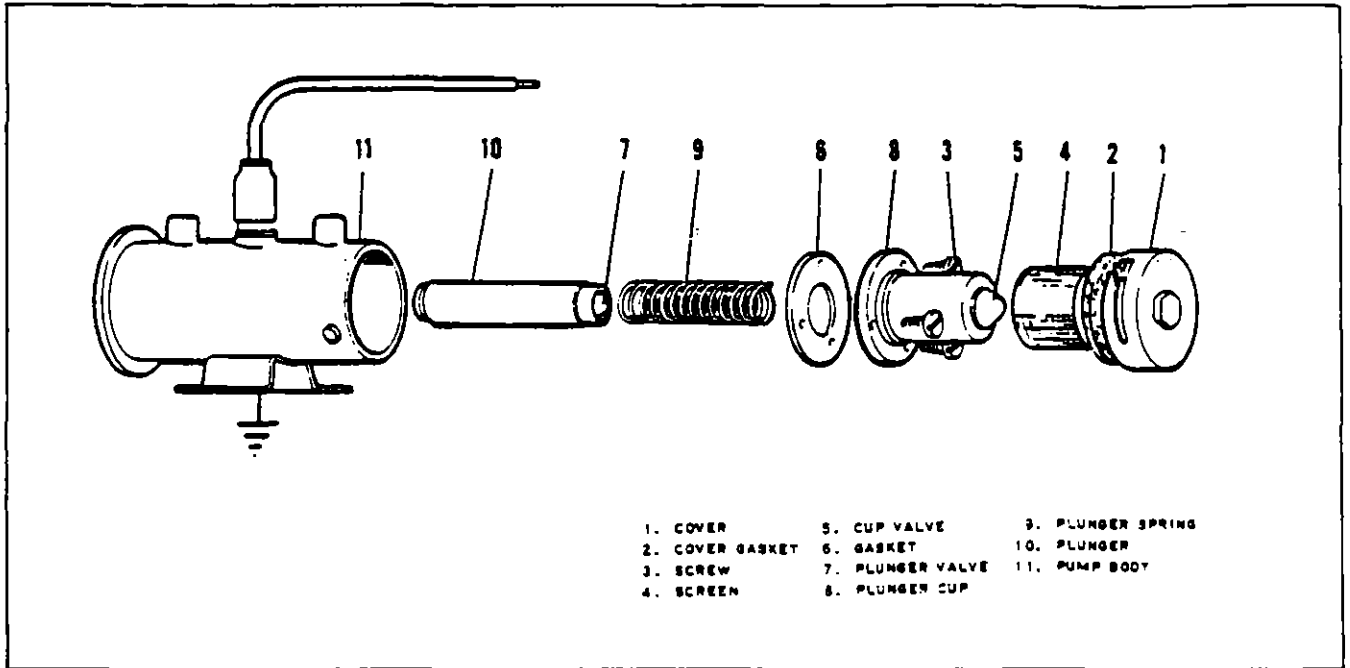
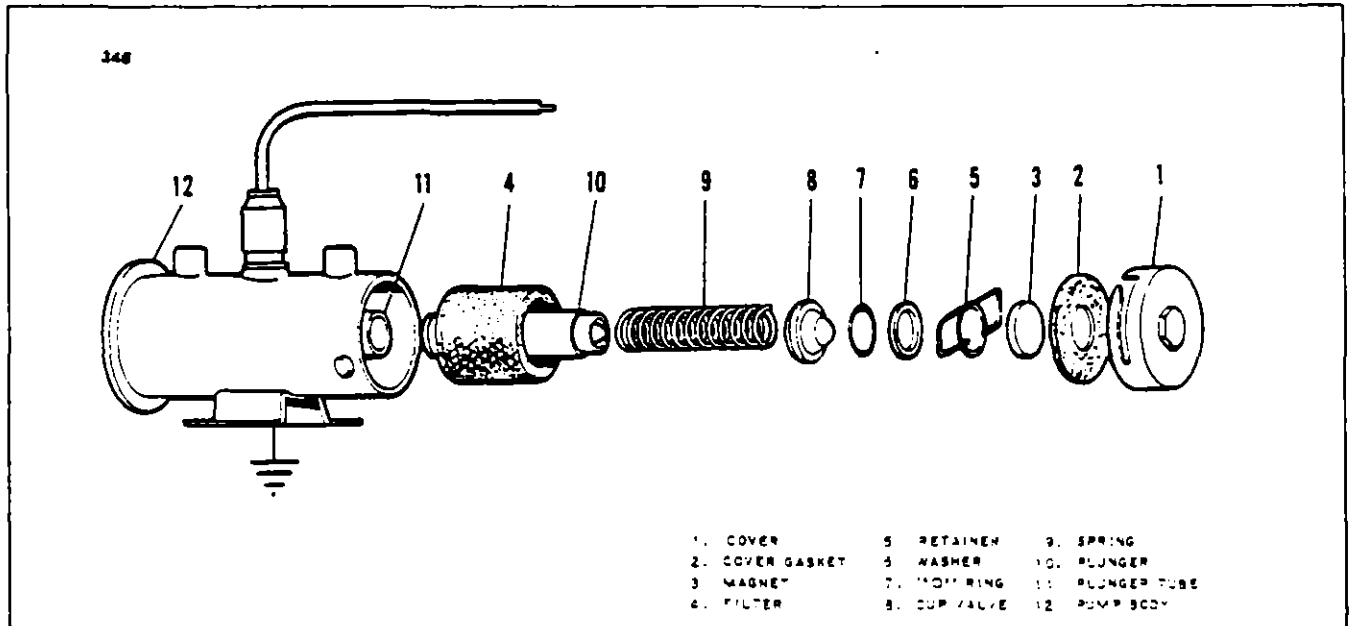

FIGURE 8-15. BENDIX PLUNGER FUEL PUMP (EARLY)
FIGURE 8-16. BENDIX PLUNGER FUEL PUMP (LATE)
Field service is limited to the extent of cleaning the bottom cover, filter screen, plunger tube and plunger assembly. On the PA-24-180 and PA-24-250 aircraft, pump internal parts differ with the early style (refer to figure 8-15) and the late style (refer to figure 8-16). On the PA-24-260 only the late style pump is used.
**1. Early Plunger Pump. (Refer to Figure 8-15.)**
- a. To service the early pump, detach from the aircraft and remove the bottom cover (1) and filter screen (4) as explained in paragraph 8-22.
- b. Disassemble the plunger spring cup (8) by removing the three screws (3) securing the cup. Gently touch the plastic cup valve (5) with your finger. If it is free, do not remove the valve spring. Do not apply air pressure to this assembly. Use long nose pliers to replace valve assembly if it falls out of the cup. It will click when the assembly is properly seated.
- c. Pull the plunger spring (9) and plunger assembly (10) from the pump with your fingers. Do not drop or mutilate the plunger. The buffer spring and valve (7) must not be removed from the plunger. Wash the plunger assembly in gasoline or a reliable solvent. If it does not wash clean or if there are any rough spots, gently dress with crocus cloth.
2. Late Plunger Pump. (Refer to Figure 8-16.)
- a. Detach pump from the aircraft and remove the bottom cover (1), gasket (2) and filter (4).
- b. Remove the retainer spring (5) from the plunger tube (11) using thin nose pliers to spread and remove ends of retainer from tube. Then remove washer (6), "O" ring seal (7), cup valve (8), plunger spring (9) and plunger (10) from tube (11).
- d. To reassemble the pump, insert the plunger assembly (10) in the tube with the buffer spring end first. Check fit by slowly raising and lowering the plunger in the tube. It should move freely without any tendency to stick. If a click cannot be heard, the interrupter assembly is not functioning properly in which case the pump should be replaced.
- e. To complete the assembly, install the plunger spring (9), cup valve (8), "O" ring seal (7) and washer (6). Compress spring (9) and assemble retainer (5) with ends of retainer in side holes of tube (11). Reinstall filter, cover gasket, magnet and cover. Safety and install on aircraft. Check for fuel leakage.